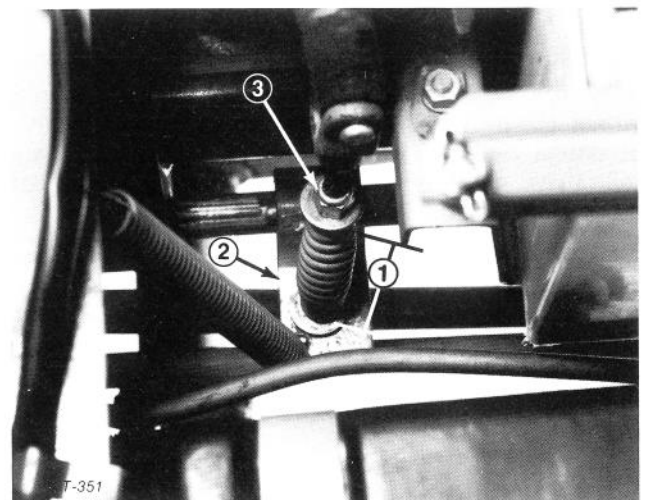

Figure 53
3. Measure length of PTO spring between flat-washers (Fig. 53). There should be a spring length of 3-3/16 in. (81 mm).
4. To adjust, hold head of adjusting screw with wrench (under PTO actuating arm) and turn locknut (Fig. 53).